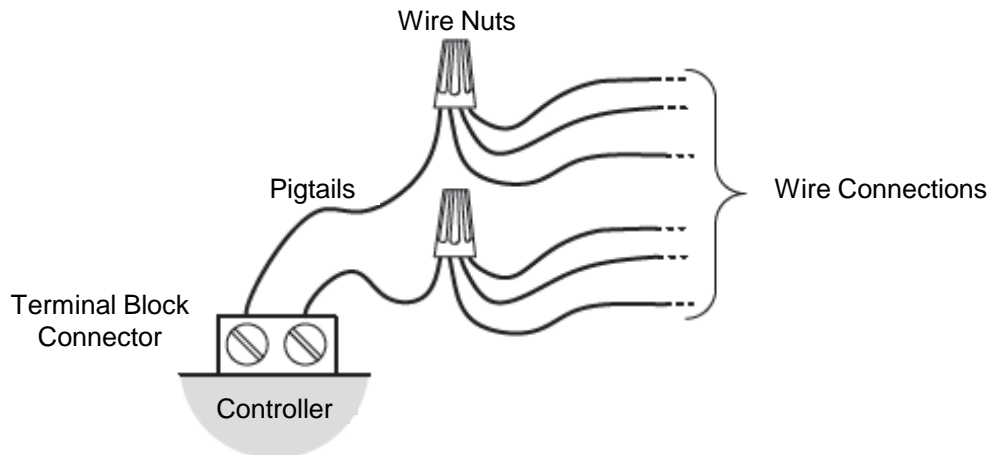

Figure 11: Controller's terminal block connection
- For any other wiring combinations, including mixed wire thickness, mixed wire type, or more than two wires, refer to the terminal block connection in Figure 11.